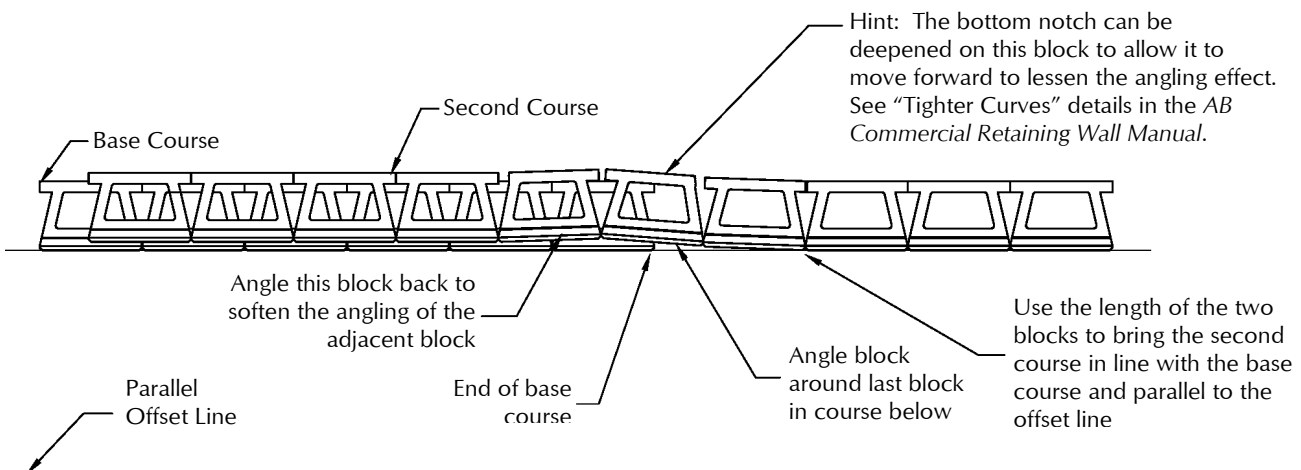

Figure 7: Using a Kink to Build a Straight Wall – Building the Second Course
4. Construct the second course as shown in the *AB Commercial Retaining Wall Manual*. When your second course reaches the end of the buried base course, add a kink in the wall as shown in Figure 7 to bring the wall back to the working line and parallel with your existing feature. Continue constructing the second course on top of the compacted base.